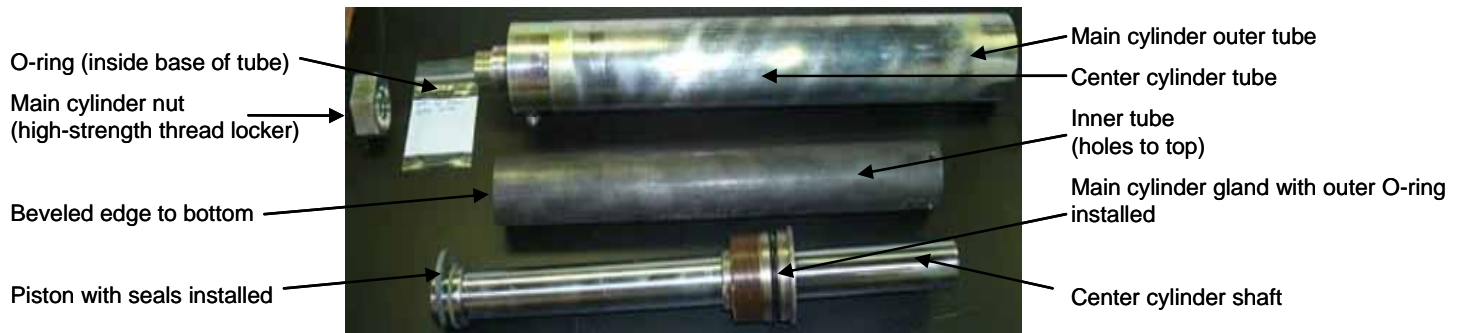

Figure 51. Main cylinder components.
Figure 51 shows the main cylinder partially disassembled. Damaged seals could result in leaking hydraulic fluid or loss of hydraulic pressure.
- Carefully slide the shaft piston into the center tube. Lower both components into the outer tube housing (see figure 51 above and figure 62).